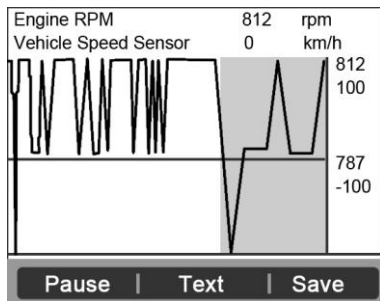

Figure 6.13
- If the “**Graphics**” on the bottom appears when a PID is highlighted, graphic information is available. Select **Graphics** to view graph. (Figure 6.13). PID name, current value, maximum and minimum values are displayed on the screen.